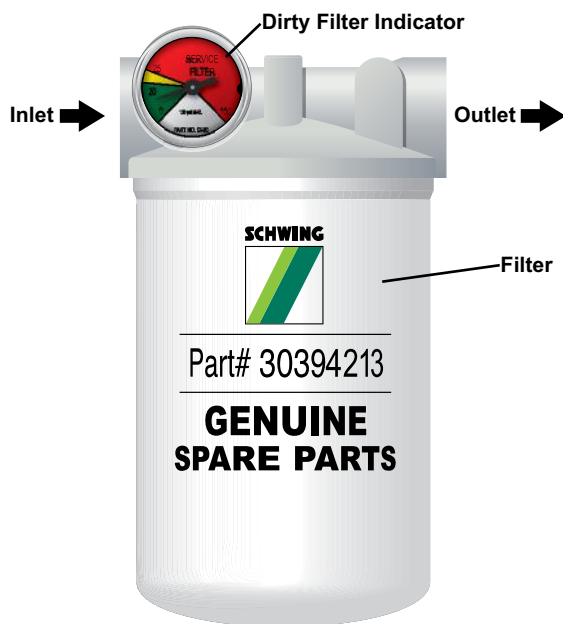

Figure 3
- Your concrete pump is equipped with a recirculation type of filtration system, meaning that there is a pump that sucks oil from the reservoir, pumps it through the filter and cooler, and back to the tank. Whenever the engine is running, oil is being filtered. The filtration is done with a spin-on filter assembly (Figure 3). It is equipped with an integral bypass check valve set at 35 PSI. The bypass valve protects the filter element from damage, as explained below. The assembly is equipped with an anti-back-flow check valve, which prevents oil from draining out of the tank while you are changing the spin-on element. There is a dirty filter indicator to tell you when the element is dirty. You should replace the element whenever the indicator enters the yellow area and the oil is heated above 20 degrees Celsius. Under normal circumstances, the element will need replacement about every 6 months. The element has been designed to remove all particles large enough to cause undue wear and jobsite breakdowns ($\beta_{10} = 200$). You can keep the hydraulic system running year after year by replacing the element when replacement is due. Do not substitute "will fit" elements in this housing.